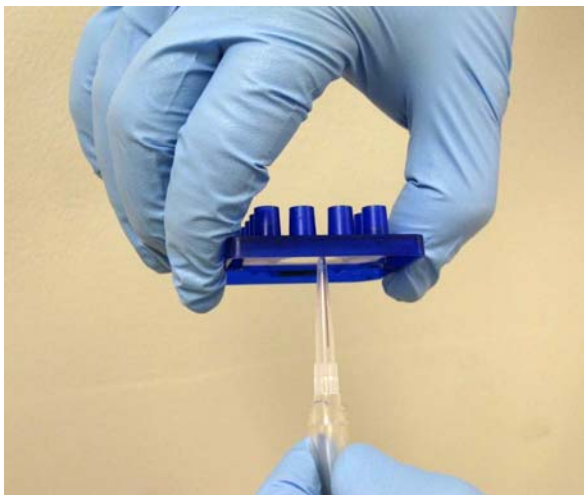

Figure 20. Removing an air bubble or clog by suctioning the sipper with a vacuum line
- Suction the sipper with a vacuum line, as shown in Figure 20, until droplets of fluid flow out from the sipper. When suctioning the sipper, be careful not to bend or break the sipper. To facilitate this, cut the end of the pipette tip attached to the vacuum line to widen the mouth.